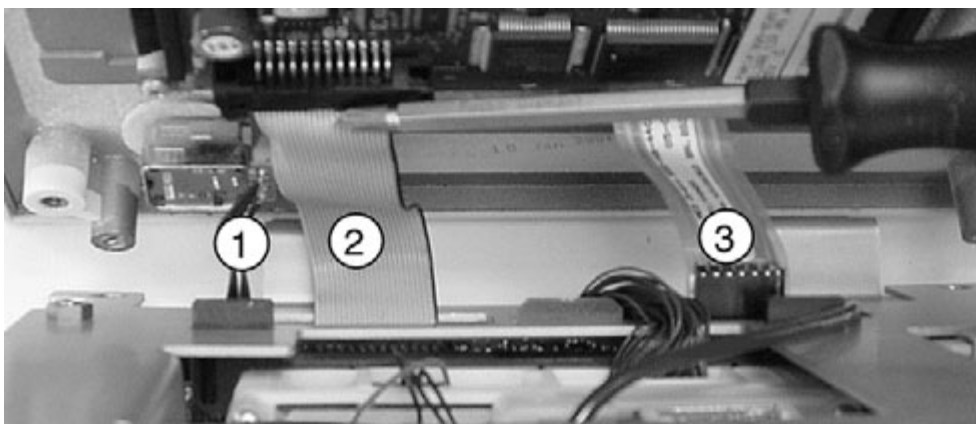

Fig. 5 Basic frame and components
- Disconnect the control-knob cable (Fig. 5/1) from the underside of the VAMOS PCB.
- Disconnect the display ribbon cable (Fig. 5/2) from the display.
- Disconnect the membrane-keypad ribbon-cable (Fig. 5/3).